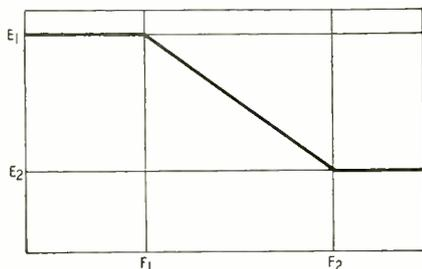

Fig. 2—Ideal equalizer characteristic.
approach to equalizer design is quite unnecessary if you understand and use the right methods. An equalizer has to provide a definite boost (or drop) in the response of a circuit between two specified frequencies. The *amount* of boost or drop may be expressed in decibels, or as a voltage ratio (db units are generally used in audio work). Since the two limit frequencies—called “turnover points”—are usually fairly far apart (at least in standard recording practice) an ideal equalizer would have the characteristics shown in Fig. 2. The response of the circuit ( $E_1$ ) is perfectly flat up to the lower turnover point ( $F_1$ ); then it drops *uniformly* to the desired level ( $E_2$ ) at the high-end turnover frequency ( $F_2$ ); then flattens out again.
1. It is assumed that they produce ideal steps with a slope of 6 db per octave (like Fig. 2), and that the turnover frequencies are exactly at the opposite ends of the step. The actual slopes are invariably less than 6 db, and the turnover points are never exactly at the ends.